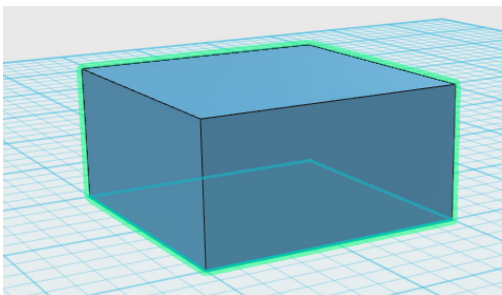

Figure 4-21 Your new box!
4. Release, and you now have a box (Figure 4-21).